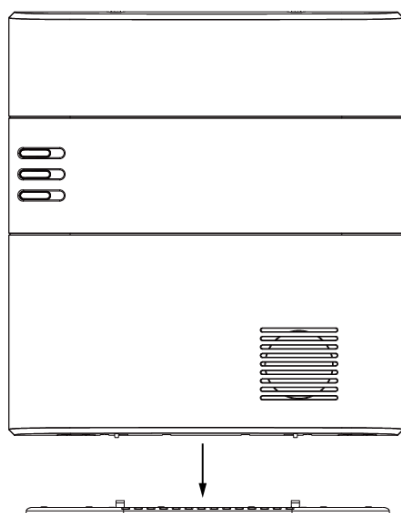

Figure 2
- 1 (Case Version A for example) The panel casing is secured by 4 screws, 2 at top and 2 at bottom, remove the top 2 screws and loosen the bottom 2 screws. (Figure 2)